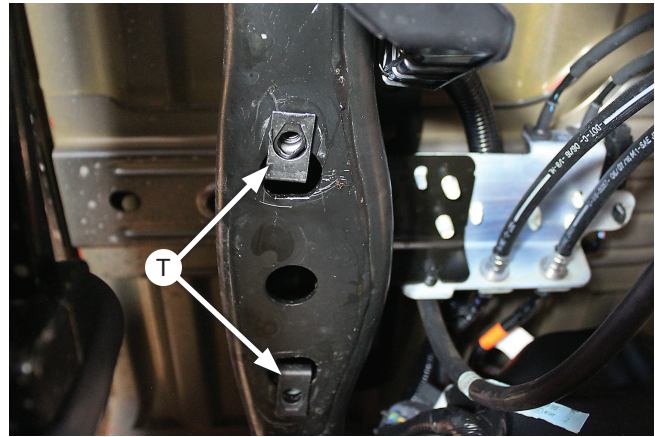

Fig. 5
3. Install the (2) universal nuts (T) into the frame rail, lining up the holes in the frame and the threads in the nuts so that a bolt can be installed (Fig. 5).